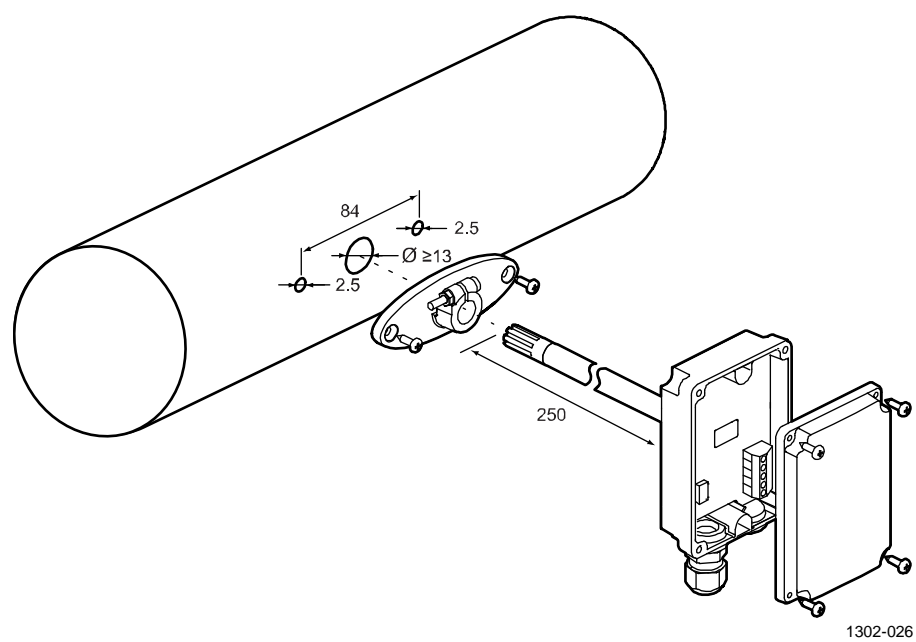

Figure 8 Duct Model Installation
3. Drill the installation holes in the duct. Refer to Figure 8 below.